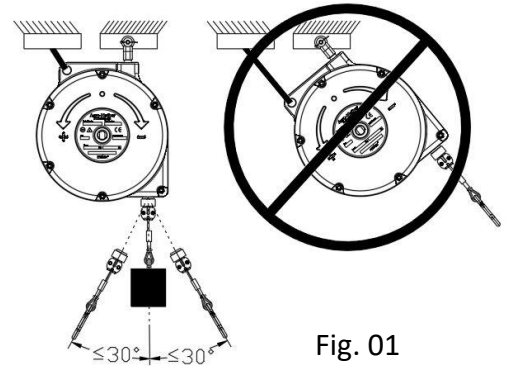

Fig. 01
- Retractor should be suspended directly over work area, using an eyebolt or similar device with a break-strength exceeding 6 times the combined weight of retractor and load it is supporting. [See - Fig. 01]
- Unit should be mounted in such a manner as to minimize cable contact with cable guide to prolong cable assembly life. [See - Fig. 01]